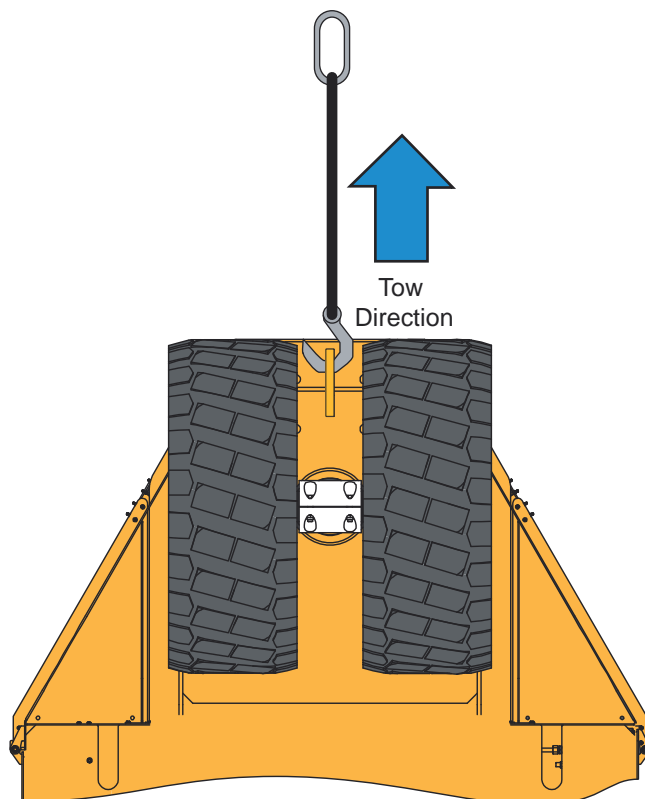

Figure 1 Towing Direction
The towing eye is located at the rear of the machine, near the rear tires. See Figure 1. The towing eye is rated at 70,000 lbs. The rear tires should be positioned to be parallel to the centerline of the machine, and the direction of pull should be parallel within 15 degrees to the centerline of the machine.
1. Connect chains as shown in Figure 1.
Tow straight backwards only, parallel within 15° to the centerline of the machine (see Figure 1). Failure to do so may cause damage to machine.